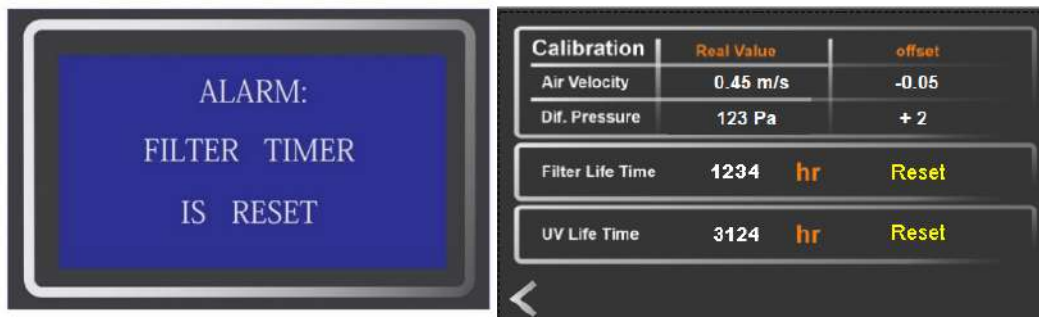

Figure 4-11 Filter Timer is Reset
- Tap and hold for 20 second the “ Reset” button to update the installed date, and the Filter work hours will be fall to zero. When you tap the “Reset button”, a pop-up screen shown in Figure 4-11